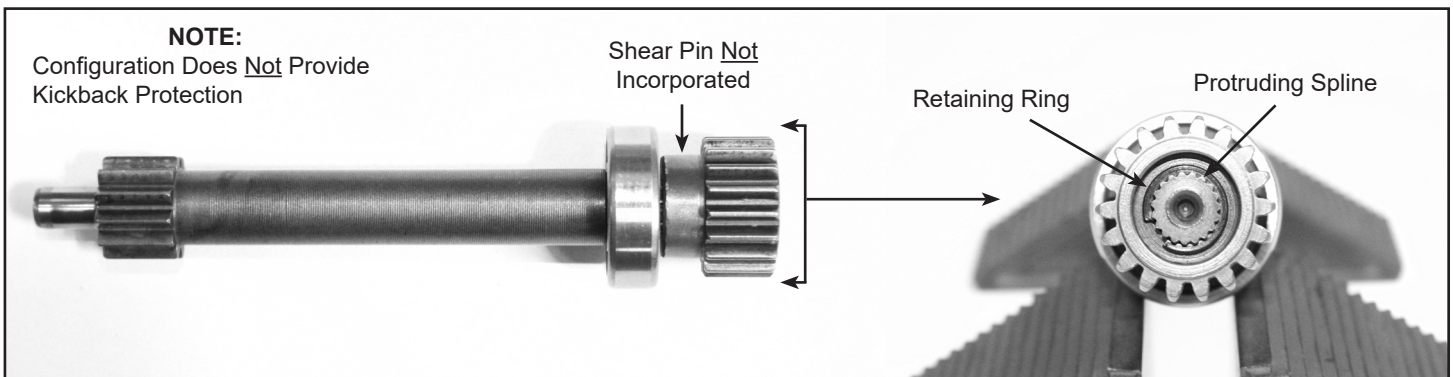

Figure 2 - Lay Shaft w/o Kickback Protection
- (d) Inspect the lay shaft against Figures 2 & 3.
- 1) If Figure 2 configuration is observed, the lay shaft does not provide kickback protection. Replace the lay shaft. See 2.A., Material Required:
- c) Apply Loctite 222MS to the threads of the two machine screws (1).
- d) Assemble the motor adapter to the solenoid assembly and install two machine screws (1) finger tight.
- e) Torque the machine screws (1) 55-60 in-lbs.